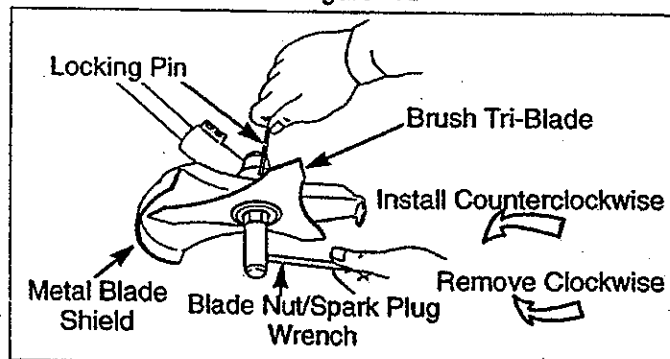

Figure 11
- To remove blade (See Figures 11 or 14), place locking pin through the gearbox and driving disk to prevent the arbor shaft from turning and remove the blade nut by turning clockwise with blade nut/spark plug wrench. Save parts removed for future use.